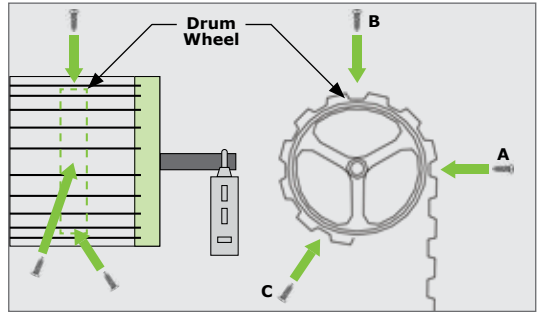

FIGURE 24
2. With the garage door in the fully-closed position, mark the curtain at points "A", "B" and "C" as depicted in Figure 24.2